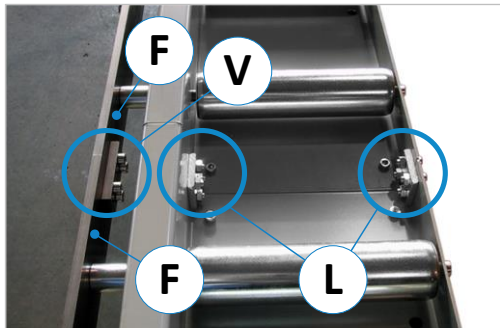

Figure 9: Connecting flat bar and segments
- Afterwards the delivered roller conveyor segments must be connected to each other on the front and rear side with the two connecting lugs (L) by screwing them together (see ⇒ Figure 9).
⇒ Figure 9: Screw the vertically mounted guide flat bars (F) of the roller conveyor tightly together with the screwed-on connecting bracket (V). When attaching the connecting bracket (V), make sure that the flat bars are exactly flush with each other → The air gap between the flat bars should be as small as possible.
EXACT B: The roller track segments are bolted together (as shown in ⇒ Figure 9) via the connecting lugs (L). Then the C-profile for guiding the sliding carriage must be mounted to the roller track. **Note:** The C-profile is supplied in one piece for the entire roller track length.